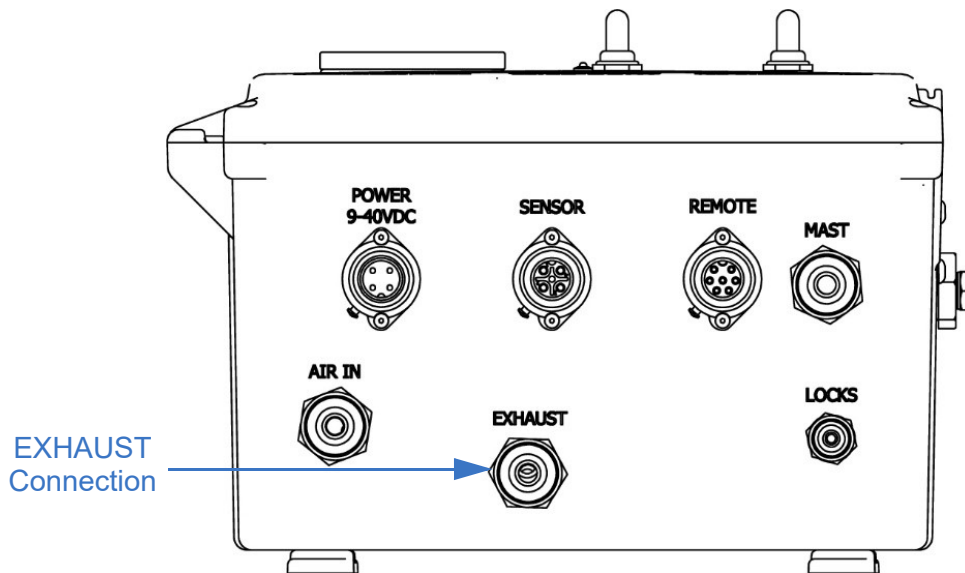
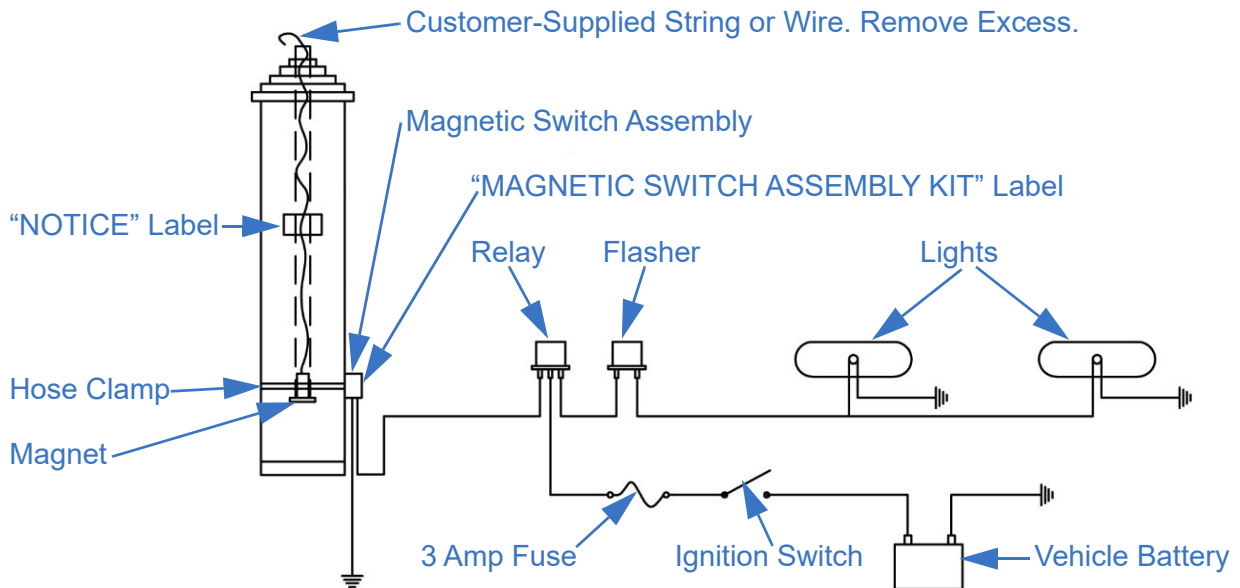

Figure 5-24 Control Box “EXHAUST” Connection
Figure 5-33 Wire the Magnetic Switch Assembly Kit
If desired, a ⅜ inch air hose can be added to the “EXHAUST” connection on the control box to route away moisture (Figure 5-24).
- b. 7-42, 9-50, 10-60, 10.3-60, 10.8-76, 8-39, 11.3-59, 9.8-65.6, and 14.3-80: Use 16 AWG stranded wire (customer-supplied) to connect the flasher, lights, and relay to the wires exiting the magnetic switch assembly (Figure 5-33 and Figure 5-24).
14. Attach the “NOTICE” label in a visible area on the base tube (Figure 5-33).
15. Attach the “MAGNETIC EXTENSION WARNING KIT” label to the magnetic switch assembly (Figure 5-33).